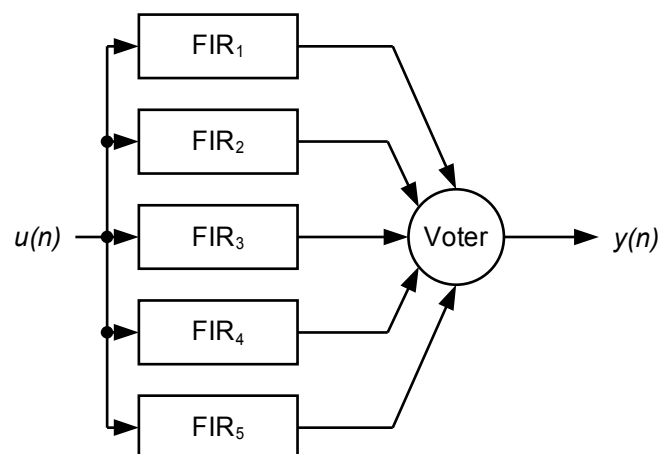

Figure 2. Fault tolerant FIR filter architecture
When developing the fault tolerant FIR filter the N-modular redundancy hardware fault tolerance approach should be used. Fault tolerant architecture that should be developed is presented in the Figure 2.
2. Develop a VHDL model of the fault tolerant FIR filter system based on the architecture in Figure 2.